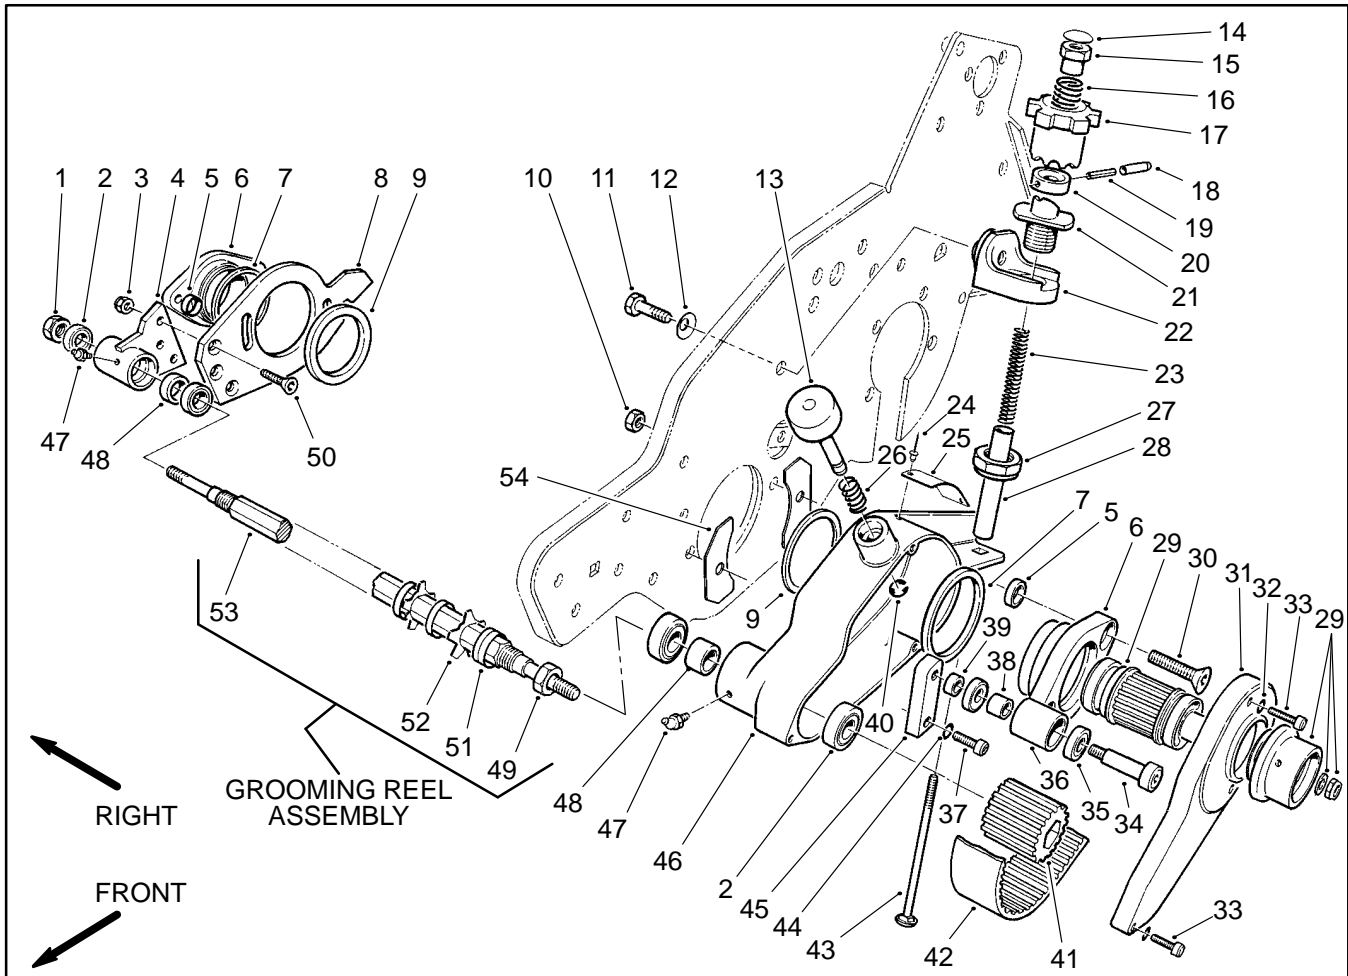

Figure 5
4. In the belt drive housing (46), disassemble the following parts (Fig. 5):
A. Loosen socket head cap screw (37). Pivot idler pulley (36) away from the drive belt (42). Remove drive belt from the driven pulley (41).
5. From the right side of the mower, remove the following (Fig. 5):
A. Remove lock nut (1) that secures the shaft (53) to the bearing housing (4).
B. Remove three flat head socket screws (50) and lock nuts (3), then remove bearing housing from the side plate (8) and shaft.
C. Pull grooming reel assembly from the belt drive housing (46).
2. Place grooming reel shaft (53) into the belt drive housing (46). Screw driven pulley (41) on the shaft. **Do not tighten** (Fig. 5).
3. From the right side of the mower, install the following (Fig. 5):
- A. Install bearing housing (4) onto the other end of the shaft (53) and side plate (8).
- B. Secure the bearing housing to the side plate with three flat head socket screws (50) and lock nuts (3).
- C. Secure lock nut (1) to the shaft.
4. While holding the lock nut (1), tighten driven pulley (42) to the shaft (53) (Fig. 5).